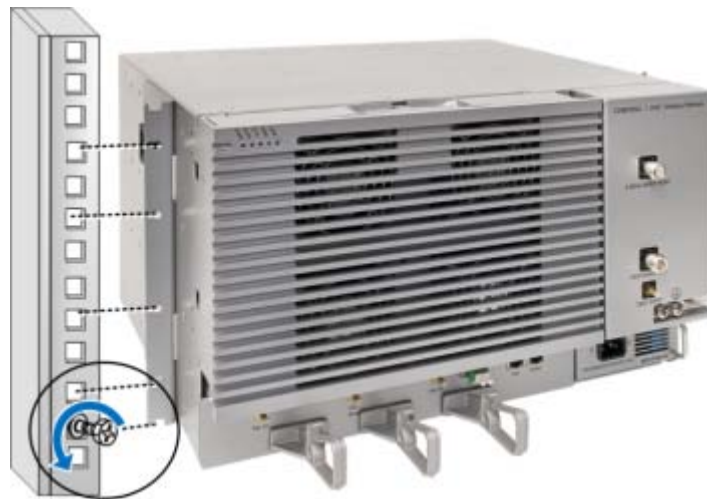

Figure 4-1 Example of MRU Chassis Rack Installation
2. Referring to Figure 4-1, secure the units' rack ears to the rack frame as follows: